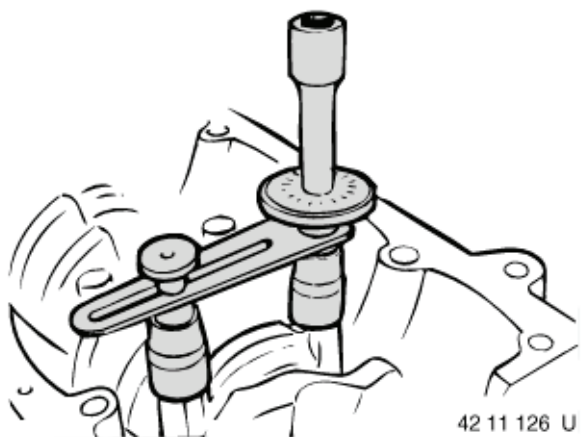

Figure 5-120
- Torque-turn tighten all bolts to specification using torsion angle tool (**Figure 5-120**). Turn crankshaft by hand to ensure there is no binding.